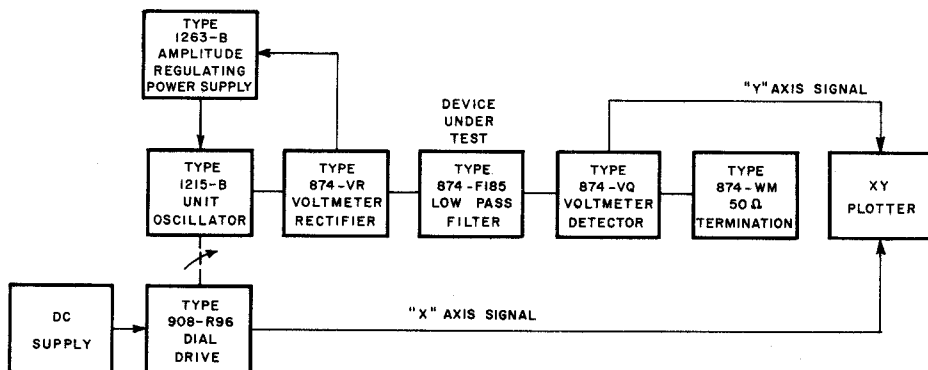

Figure 3. Typical setup for plotting frequency characteristics.
1.3.4 MATCHED DETECTOR. In setups for measuring transmission or frequency characteristics of various elements and networks, a Type 874-VQ Voltmeter Detector, terminated in a Type 874-WM Termination Unit, can be used at the output of the unknown to measure the output signal. The Type 874-VQ Voltmeter Detector is similar to the Type 874-VR Voltmeter Rectifier (paragraph 1.3.2), except that it does not contain a series 50-ohm resistor and does contain compensating elements to minimize discontinuity produced by the shunt reactance of the crystal diode. A block diagram of the set-up for plotting frequency characteristics of a Type 874-F185 Low-Pass Filter is shown in Figure 3. In this diagram, the output of a Type 1215-B Unit Oscillator, regulated by the Type 1263-B Amplitude-Regulating Power Supply, is fed through the output rectifier (874-VR) to the device under test (874-F185). The output from the device under test is detected by the properly terminated Type 874-VQ Voltmeter Detector and the characteristics are plotted on an x-y plotter.
constant output voltage in order that the final recording will be a direct indication of relative response. In the block diagram of Figure 3, a Type 908-R96 Dial Drive is shown driving a Type 1215-B Unit Oscillator, with the detected output of a low-pass filter plotted by an x-y plotter.